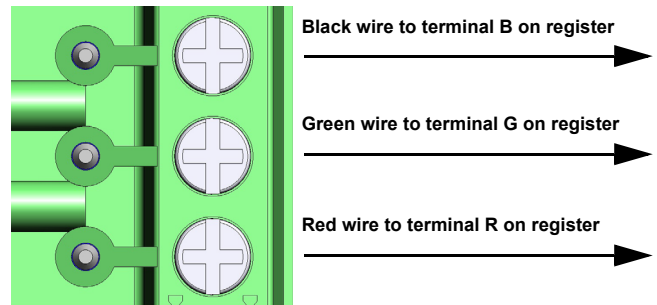

Figure 2 Connect the transmitter to the register
3. Insert the stripped wires into the removable header terminal per Figure 2.
5. If removed, replace the removable header terminal, ensuring they match Figure 2.